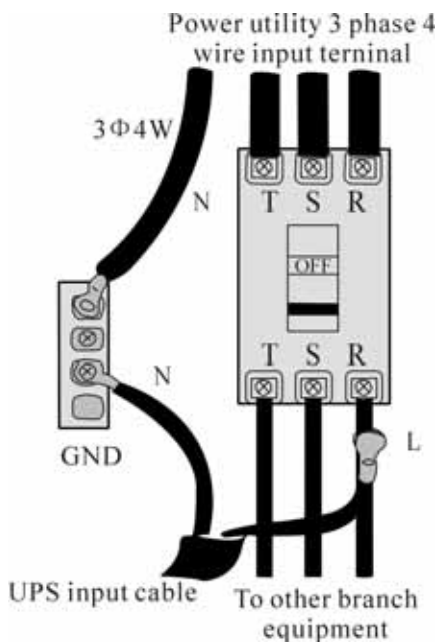

Figure 14
14. Avoid using the same switch with other equipment when connect to switchboard, try to connect cable to utility terminal. Figure 14.